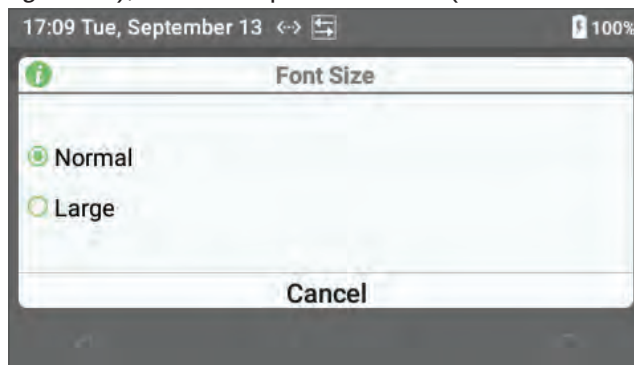

Figure 19: Adjusting Font Size
- 2 In the dialog box (*Figure 19*), select the preferred size (**Normal** or **Large**).